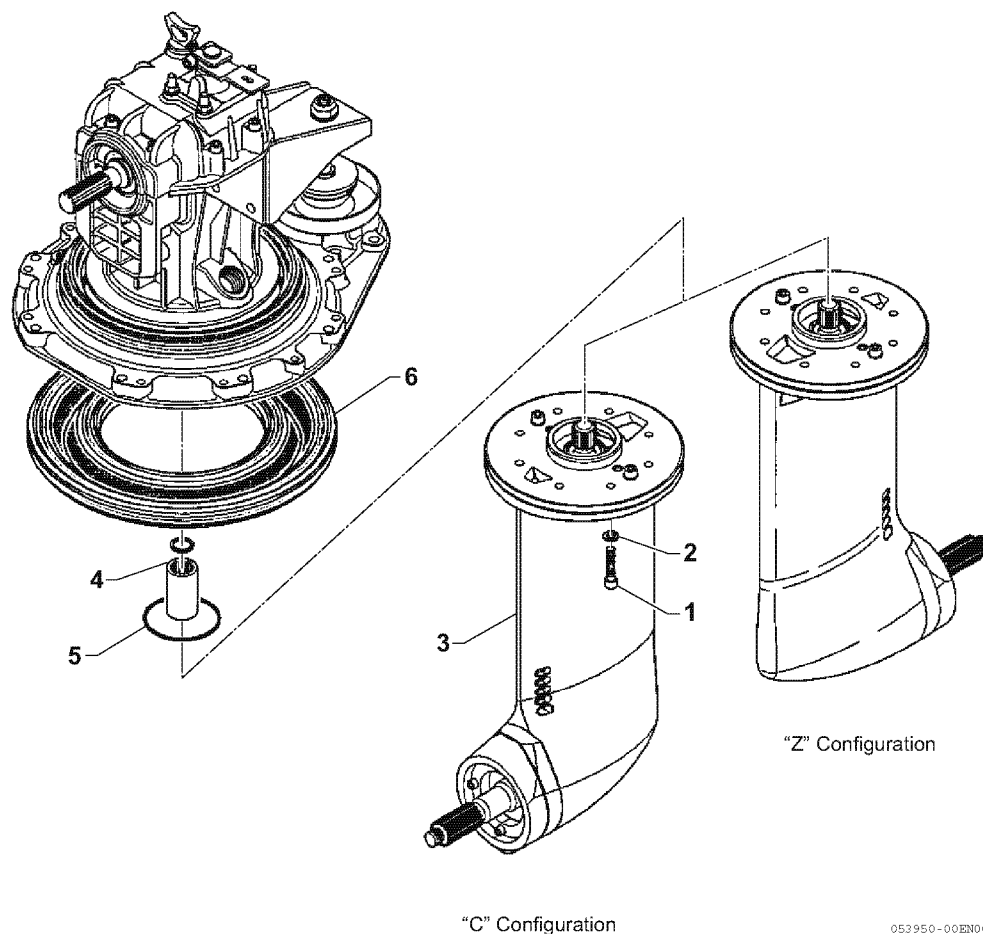

Figure 30
The connection between the upper gear housing and the lower leg housing is made by means of eight screws M8 × 40 (1, Figure 30).
1. Remove all the lower connection screws M8 × 40, 8 pcs, (1, Figure 30) together with the relative washers (2, Figure 30) below the division line of the drive.
3. Rotate the lower leg housing 180° (3, Figure 30).
5. Apply MOLYCOTE G-n PLUS to the screws M8 × 40, 8 pcs (1, Figure 30).
6. The spline sleeve (4, Figure 30) is put in vertical position, thus it can fall down.
7. Be sure that the O-ring (5, Figure 30) that seals the head with the leg stays attached to the leg when taking it out. Pay attention not to damage the O-ring when putting the leg in the new position.
8. When extracting the leg, the rubber seal (6, Figure 30), of the entire sail drive, gets loose. Pay attention not to damage this rubber when put the leg back in position.